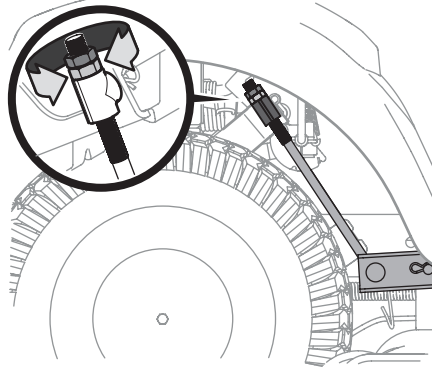

Figure 4-6
3. Under the rear fenders inside the wheels there is a lift adjustment rod for each side of the deck. See Figure 4-6.